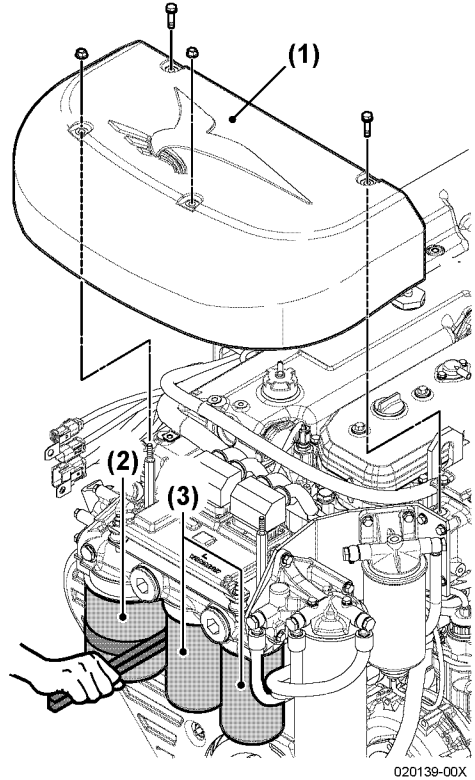

Figure 2
1. Turn the engine off. Remove the aluminum casting cover for electric control unit (**Figure 2, (1)**).
3. Turn the engine oil filters (**Figure 2, (2)**) and (**Figure 2, (3)**) counterclockwise with a filter wrench.